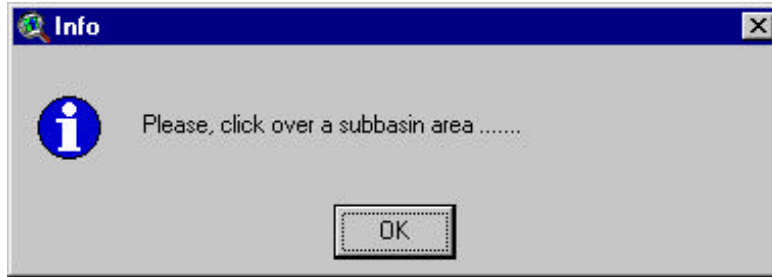

Figure 4.30
- i. If the mouse cursor was located outside the watershed when right clicked, a message box will notify the user (Figure 4.30).